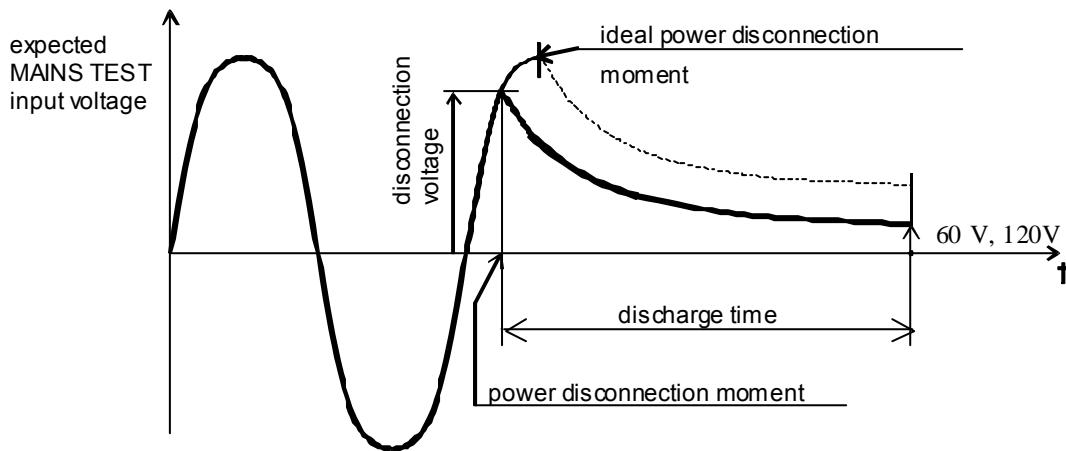

Fig. 25. Voltage on MAINS TEST input
STEP 6. Pull out double connection element and wait for the result to be displayed. If the disconnection voltage is high enough to carry out a measurement, (see fig. 25) **Start** message is displayed and the measurement will be performed. If the voltage is not high enough then the result of 0.0 s and **Repeat** message are displayed. In this instance repeat measurement from STEP 3. If the result 0.0 s and **Repeat** message reappears repeat measurement 5 to 10 times successively. The result 0.0 s can then be accepted as valid. **Timeout** is displayed if the double connection element is not pulled out in 10 s, or discharging time is higher than 10 s.
STEP 6. Pull out power supply connector and wait for the result to be displayed. If the disconnection voltage is high enough to carry out a measurement (see fig. 25), **Start** message is displayed and the measurement will be performed. If the voltage is not high enough then the result 0.0 s and **Repeat** message are displayed. In this instance repeat measurement from STEP 3. If the result 0.0 s and **Repeat** message reappears repeat measurement 5 to 10 times successively. The result 0.0 s can then be accepted as valid. **Timeout** is displayed if the double connection element is not pulled out in 10 s, or discharging time is higher than 10 s.